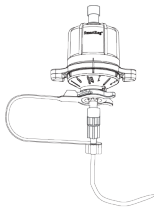

Figure 3
1. For priming purposes, the regulator is packaged with the Lock Guard key inserted and flow rate is set to the maximum flow rate (over 6 ml/hr or over 15 ml/hr depends on the set version) (See Figure 3). Verify the regulator is set to the highest level.